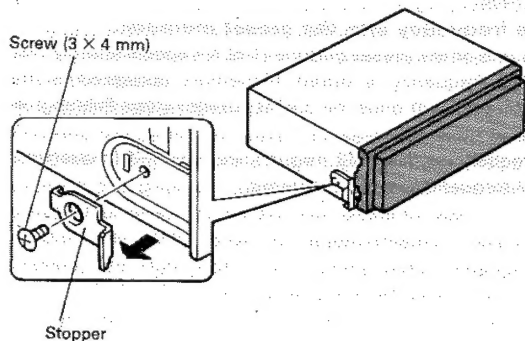

Fig. 1
- If installation angle exceeds 30° from horizontal, the unit might not give its optimum performance. (Fig. 1)
Remove the screw (3×4 mm) and remove the stoppers from both sides (Fig. 1).